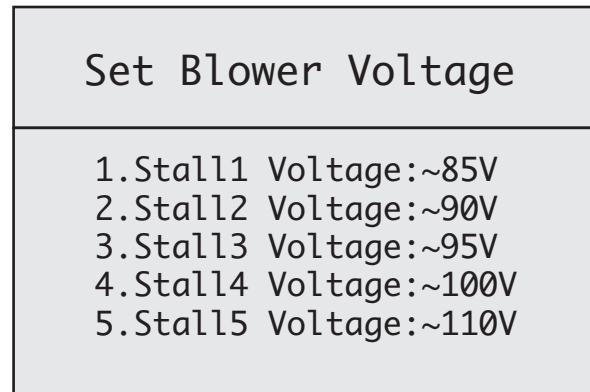

Figure 26
2. Using the **SCROLL DOWN** key, move down to option 4: “**SET BLOWER VOLTAGE**”. Press **ENTER** again to move into the “**SET BLOWER VOLTAGE**” screen. **SEE FIGURE 26.**
- NOTE: Voltage can be decreased or increased only in increments of five (5).**